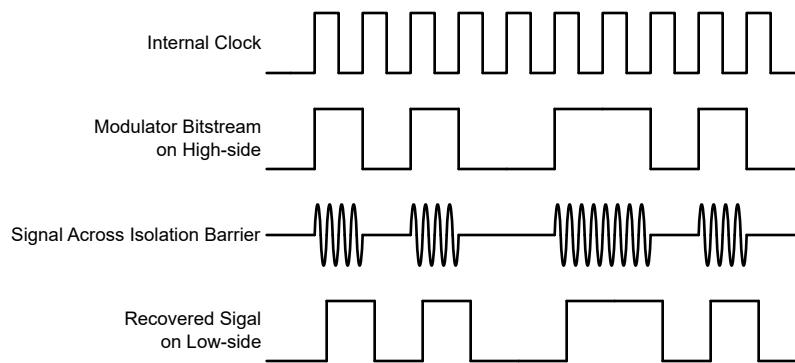

Figure 7-1. OOK-Based Modulation Scheme
As shown in Figure 7-1, the AMC0381R-Q1 uses an on-off keying (OOK) modulation scheme to transmit the modulator output bitstream across the SiO_2 -based isolation barrier. The transmit driver (TX) is illustrated in the Functional Block Diagram. TX transmits an internally generated, high-frequency carrier across the isolation barrier to represent a digital one. However, TX does not send a signal to represent a digital zero. The nominal frequency of the carrier used inside the AMC0381R-Q1 is 480MHz.